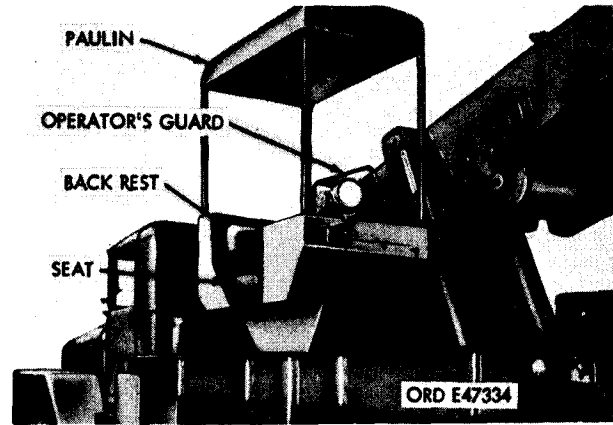

Figure 545. Operator's Station.
k. Operator's Station. The operator's station is of all welded steel construction. A metal frame and paulin, is provided for operator's protection (fig. 545). The operator's seat, backrest and controls are mounted in the operator's station. A guard bolted to the operator's station next to the boom protects operator from accidentally contacting boom as it raises and lowers.